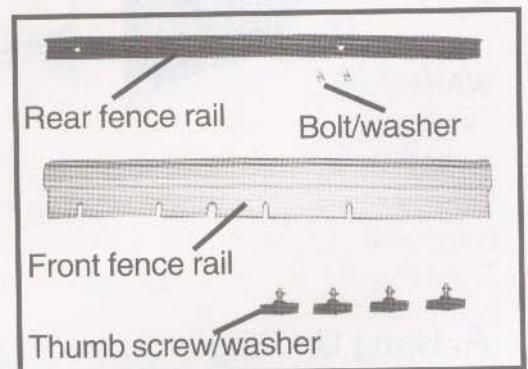

Fig.3
Install the rear fence rail to the table with (2) M6-1.0 x 20 hex bolt and (2) flat washer M6 (Fig.3).
Install the front fence rail to the table with (4) thumb screw and (4) flat washer M8 (Fig.3).
b) Remove the rip fence rail from the front of the table by releasing the 4 thumb screws (Fig. 3 on page 5).
i) Replace the rip fence guide, and retighten the 4 thumb screws (Fig. 3 on page 5).